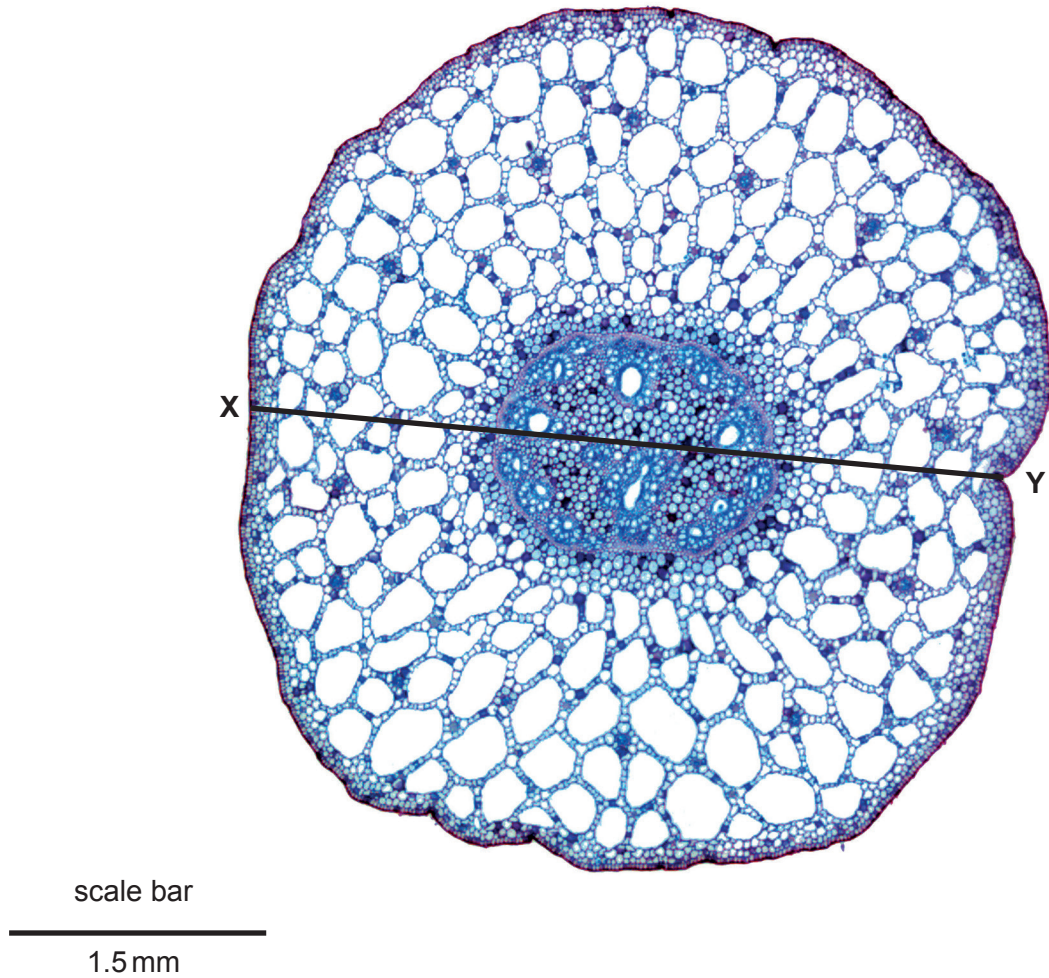

Fig. 2.2
- (b) Fig. 2.2 is a photomicrograph of a stained transverse section through a stem of a different type of plant that grows in water.
- (i) Use the scale bar on Fig. 2.2 to calculate the actual diameter of the stem indicated by line X–Y.
(ii) Identify **three** observable differences between the stem on **J1** and the stem shown in Fig. 2.2.
(iii) Suggest **one** observable feature shown by the stem in Fig. 2.2 that allows the plant to live in water. Give a reason for your answer.